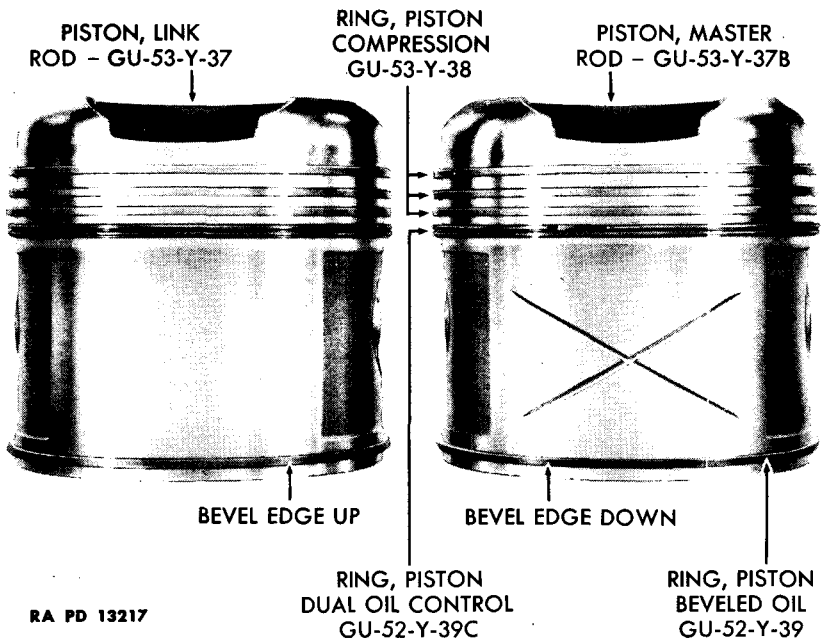

Figure 54—Two Types of Pistons Used
71. INSPECT THE PISTONS (figs. 54 and 55).